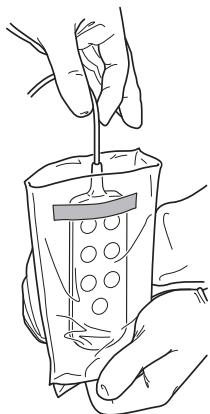

Figure 123 – Sterile Drape Removal
2. Remove the hand controller body from the sterile drape (Figure 123).